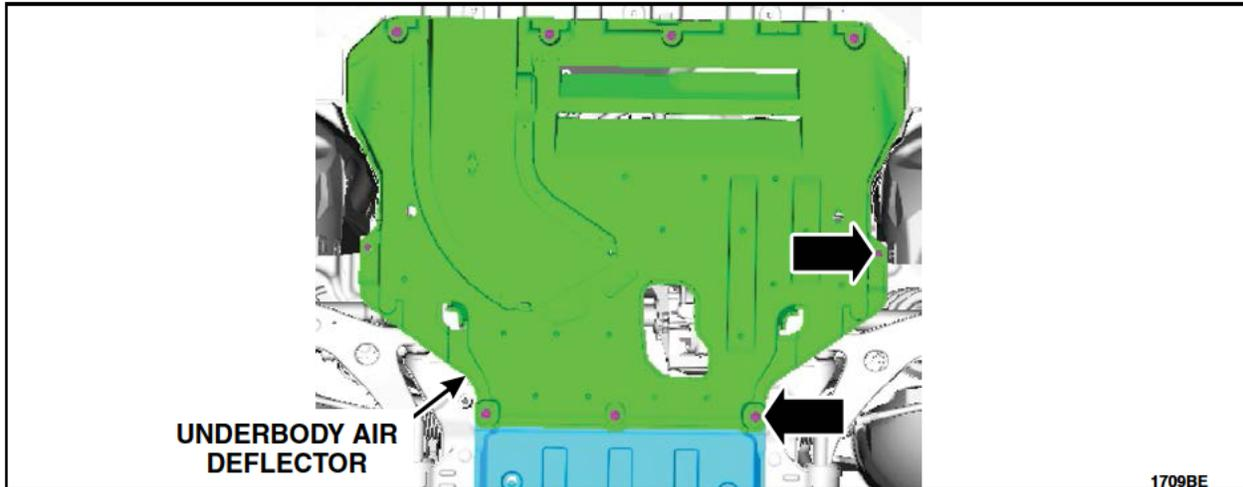

FIGURE A5
14. Remove the retainers and the front underbody air deflector. See Figure A5.